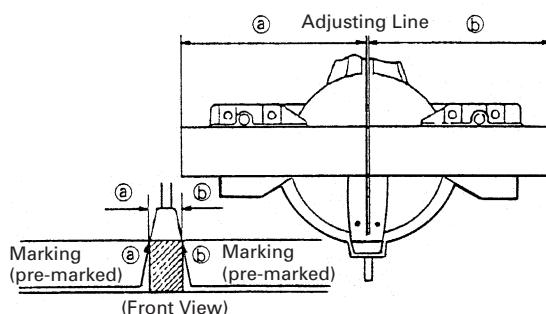

Fig. 21
- (1) As shown in Fig. 21 the width of the saw blade is the width of the cut. Therefore, slide the workpiece to the right (viewed from the operator's position) when length ⑥ is desired, or to the left when length ④ is desired.